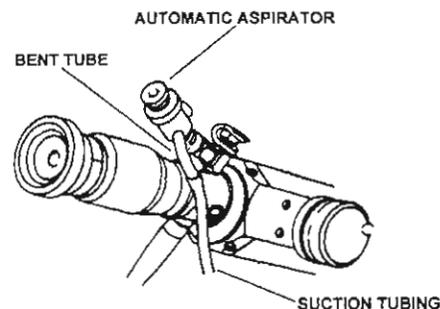

Figure 2-13. Removing suction tubing.
- a.* Disconnect the suction tubing from the bent tube on the automatic aspirator. Refer to figure 2-13.